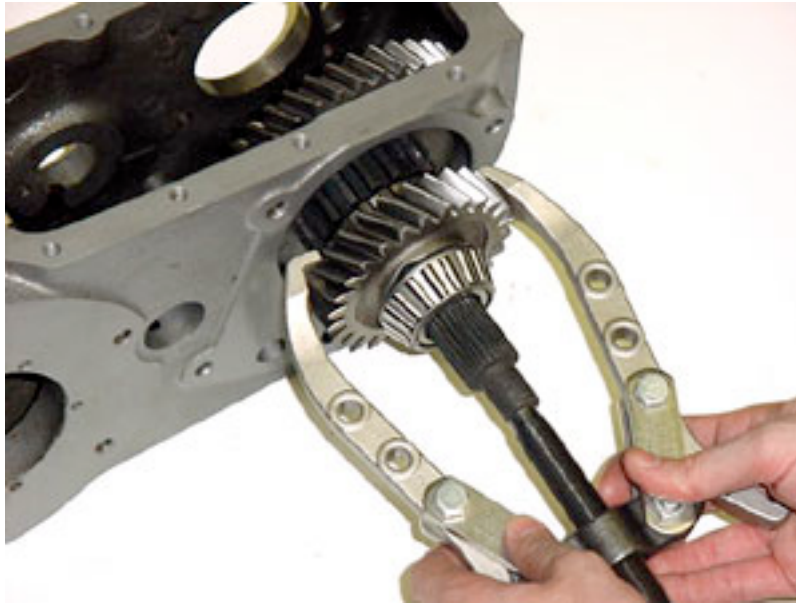
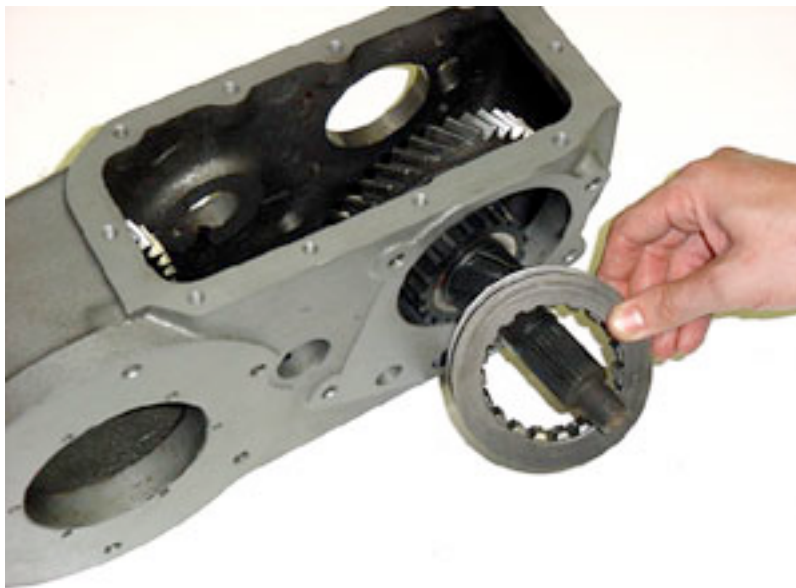

FIG: 7
FIG: 8
7) Using a 2-jaw puller, remove the helical gear and roller bearing as shown (Fig.7). Remove the slider as shown (Fig.8).